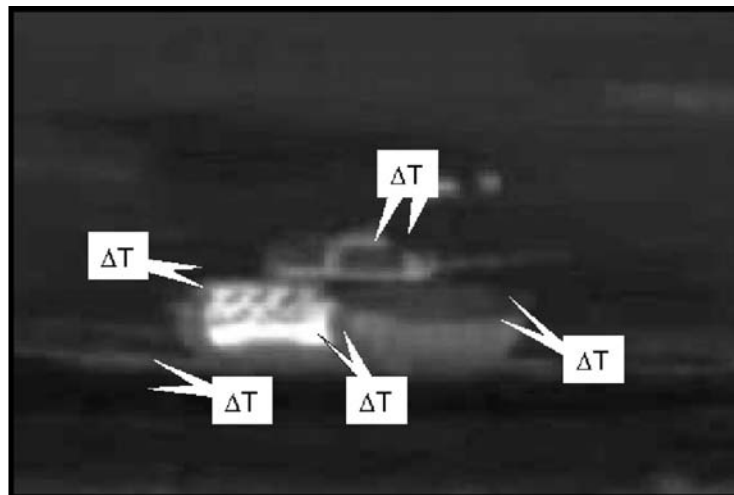
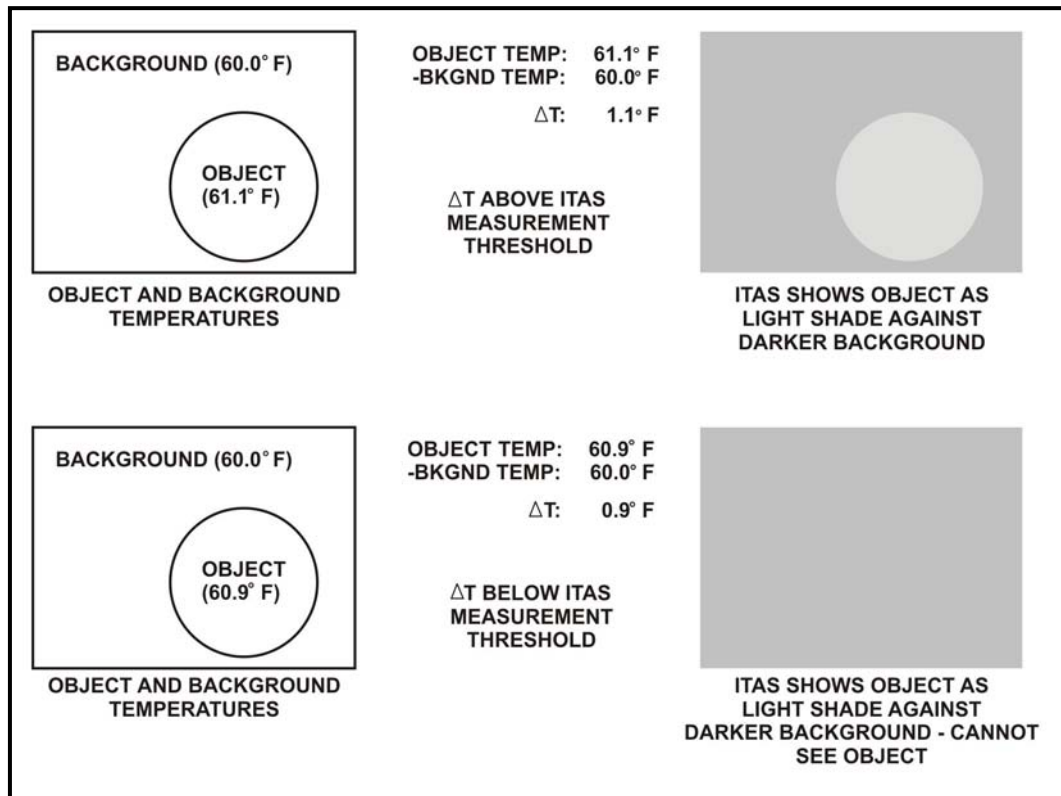

Figure C-8. Delta-Ts.
Figure C-9. Measurable Delta-Ts.
d. **Delta-T to Visible Image.** Delta-Ts occur between different objects in the target scene and between the different parts of a target. This technique allows the gunner to see different objects in the target scene, and to distinguish between different parts of a target (Figure C-8). For the gunner to see a target with the ITAS, a measurable Delta-T (which, for ITAS, is a difference between 1 degree Fahrenheit or greater) must exist between the target and its background (Figure C-9).